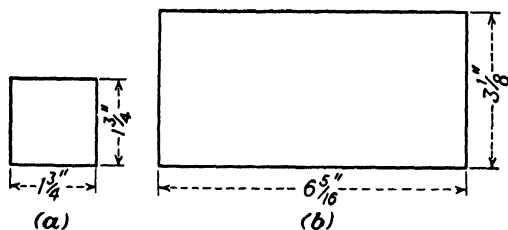

Fig. 299.
17. Find the area of each figure in Fig. 299.
18. Find the perimeter of each figure in Fig. 299.